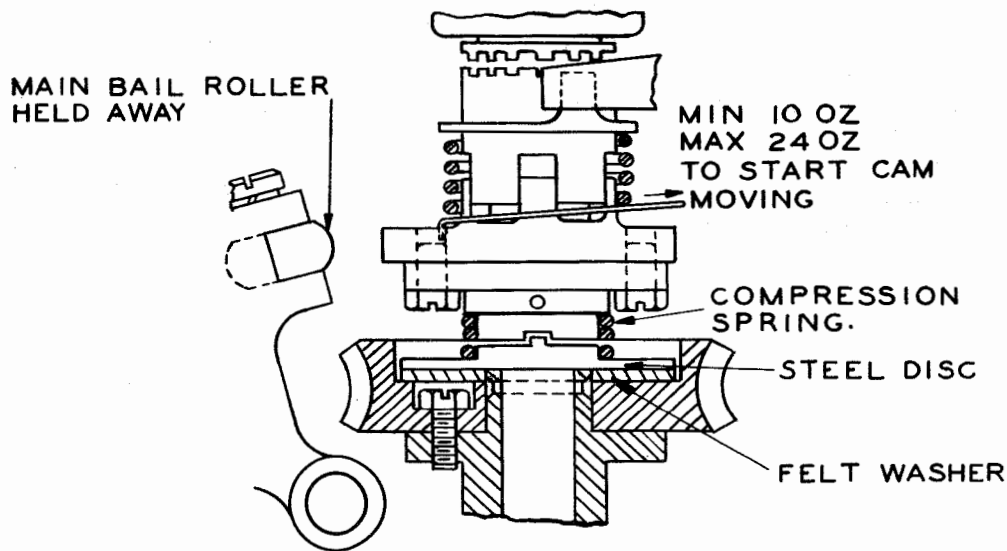

Figure 30
2.62 Main-shaft Friction-clutch Torque: After the motor has been run at least 10 minutes, a pull of minimum 10 ounces, maximum 24 ounces applied to the mainbail cam, perpendicular to the radius, shall move the cam in a direction opposite to normal rotation. The tension shall be gauged with the motor running, the selector-magnet operated, and the mainbail roller held away from its cam. (See Figure 30.)
To Check: Remove the tape reel and the gear guard, hold the main-bail roller away from the cam by pressing upon the lid of the oilcup at the top of the main-bail plunger, block the magnet armature in its operated position so that the main clutch will not engage, hook the scale into a screw hole and pull in a direction opposite to normal rotation until the cam just starts to move. (See Figure 30.)